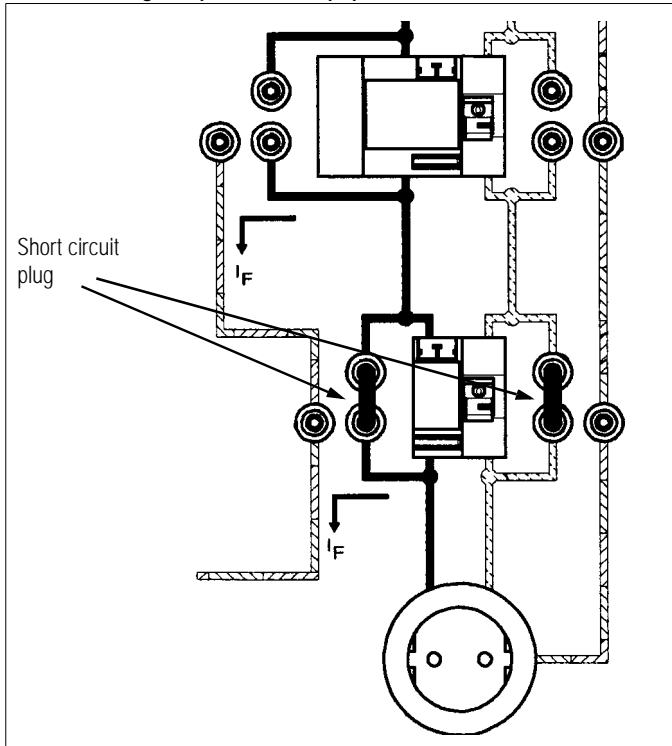
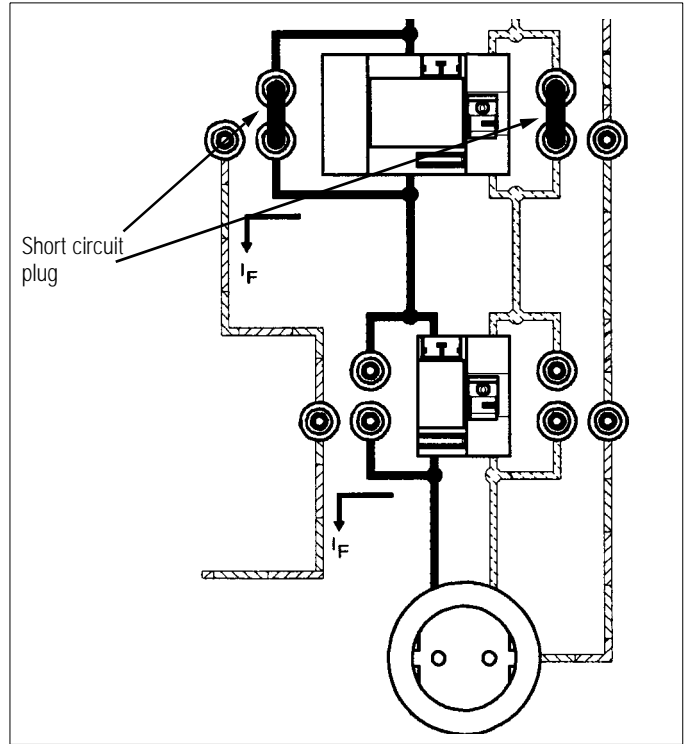

Bild 7.1-1 Selective FI switch 300 mA
Bild 7.1-2 FI switch 30 mA
- ⇨ Remove both short circuit plugs at the FI switch to be tested [Bild 7.1-1 and Bild 7.1-2].